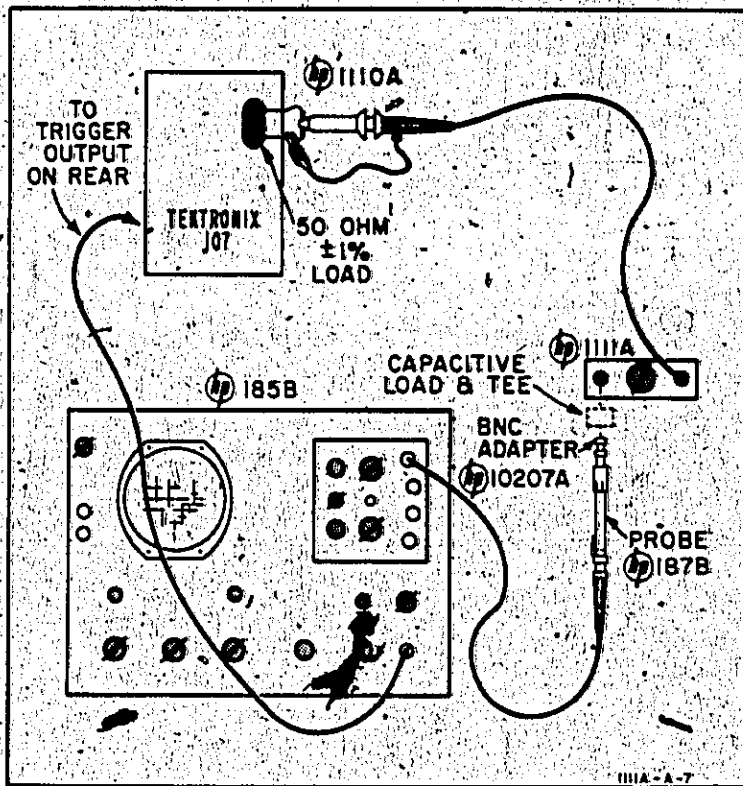

Figure 5-5. Pulse and High Frequency Response Test Setup
a. Refer to Table 5-1 and Figure 5-5, and connect specified equipment, items 3, 6, 7 and 8. One additional item is required: a capacitive load, described